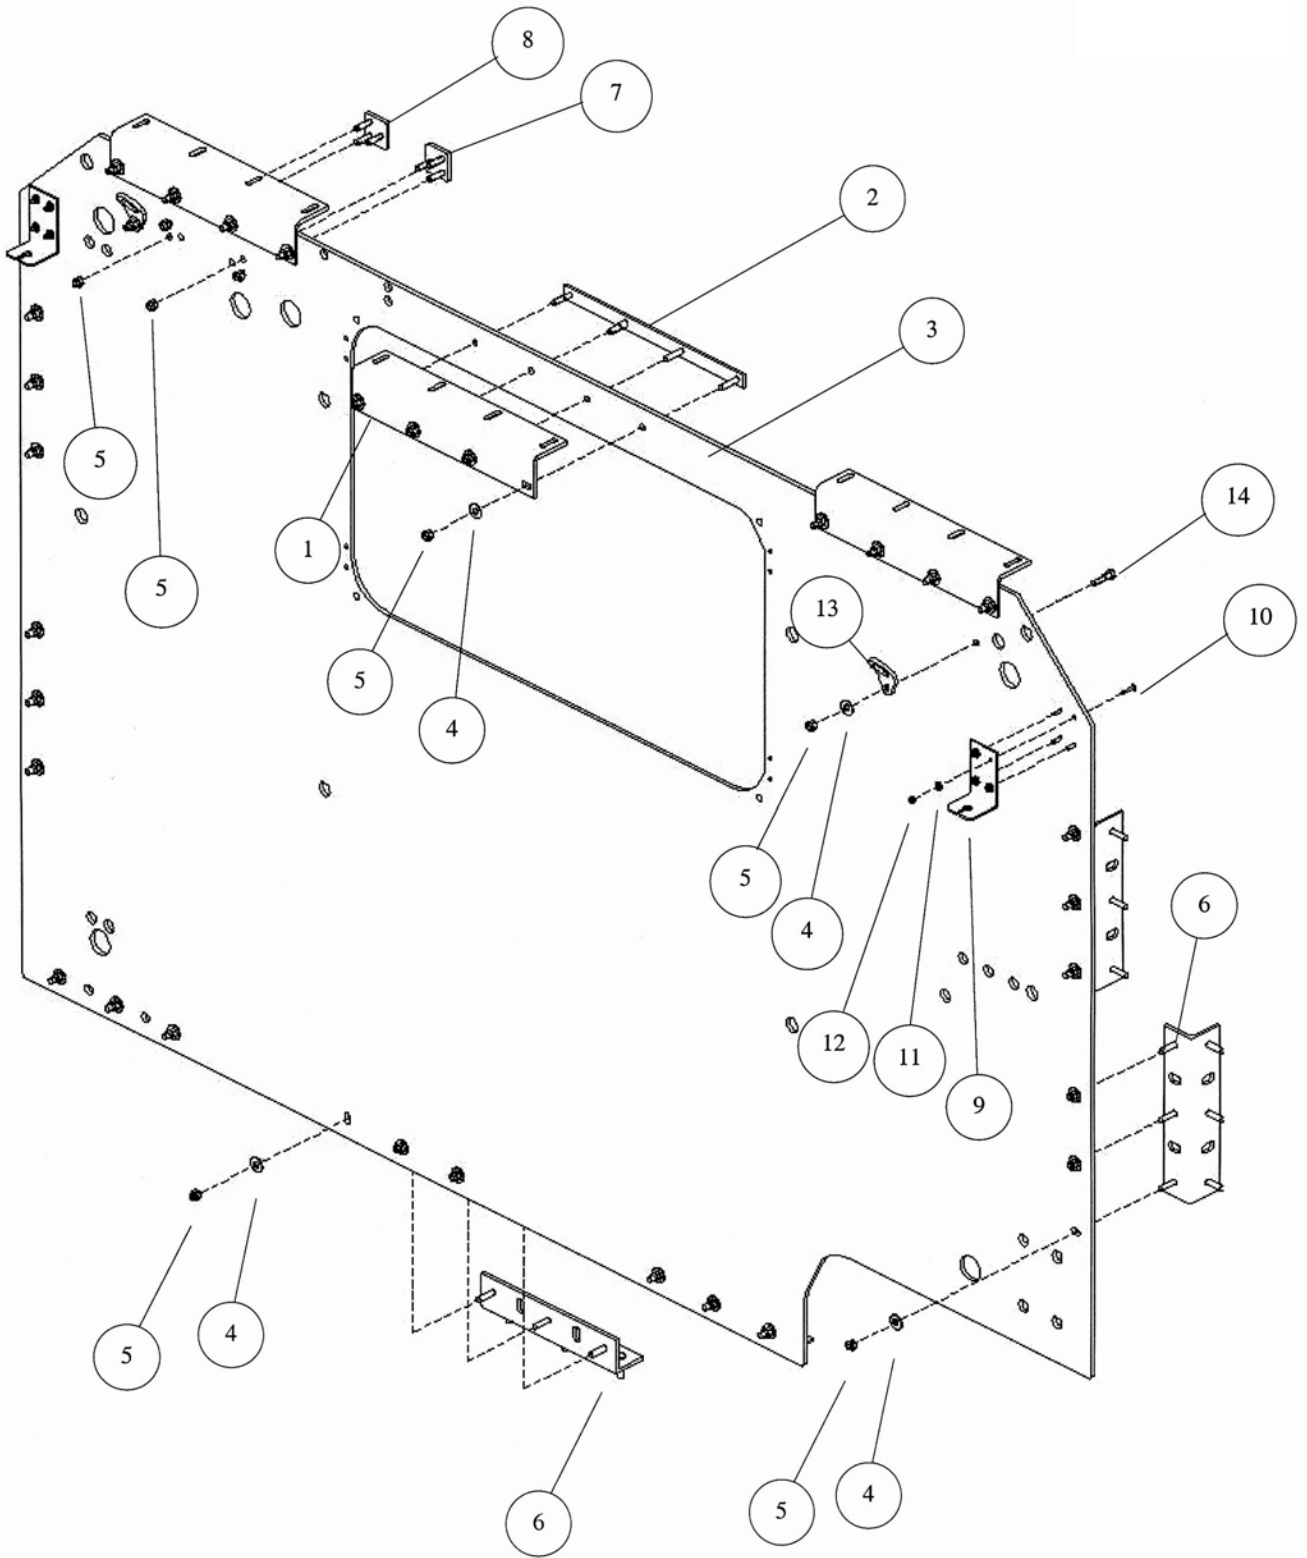

Figure 3-12. Rear Panel Pre-Assembly.
1. Pre-assemble rear panel as follows (see Figure 3-12):
- a. Install three rear panel brackets (1) and three stud plates (2) onto rear panel (3) and secure each with four flat washers (4) and locknuts (5). Tighten. However, allow bracket to slide freely from side to side.
- b. Install seven 90-degree joiner brackets (6) onto rear panel (3) and secure each with three flat washers (7) and locknuts (8). Do not tighten locknuts at this point.
Some adjustment is allowed to the left and right in the three rear panel brackets, if required. 90-deg joiner brackets may be inserted, as shown in Figure 3-12, if not previously installed.